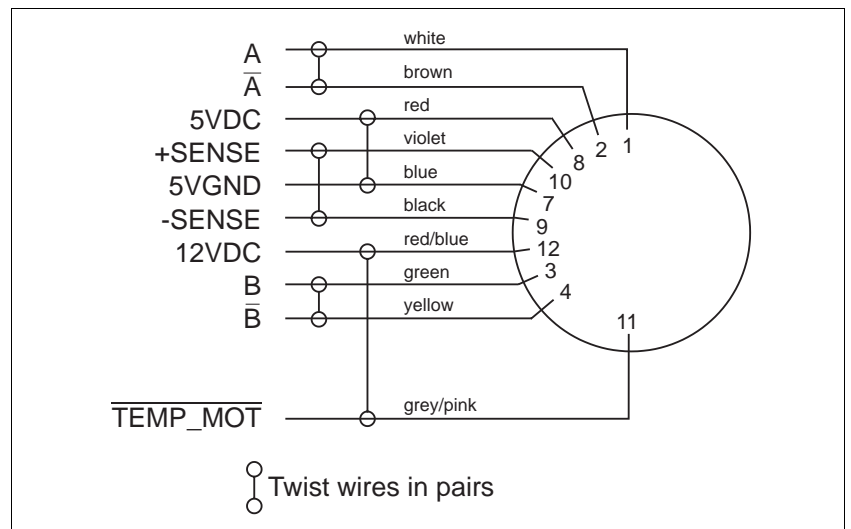

Fig. 2-20 Encoder connector – motor end
8. Fasten the connector to the front panel (item 55) with screws.
9. Twist the encoder cable wires in pairs as illustrated in fig. 2-20.